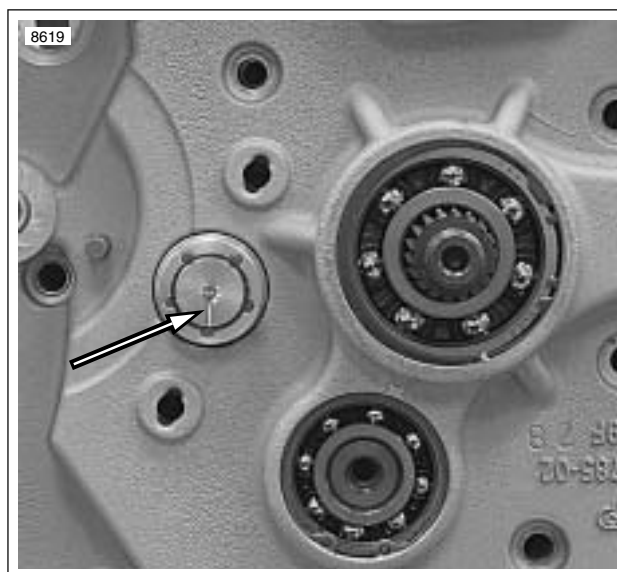

Figure 6-53. Scribed Line on Shifter Drum at 6 O'clock (Transmission in 4th Gear)
15. See Figure 6-53. Place transmission in 4th gear. The scribed line should now be at the 6 o'clock position.